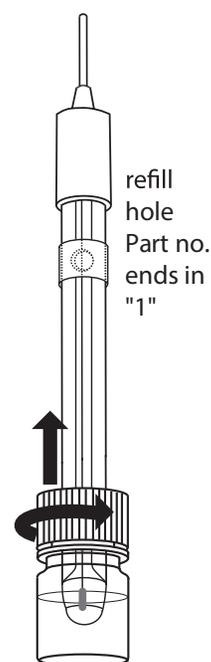

Fig. 2
1. The electrode is shipped in a plastic bottle containing a solution of 4 buffer and potassium chloride. The electrode should remain in the bottle until it is used. Remove electrode as shown in FIG.2 If the electrode is used infrequently the bottle and its solution should be saved and the electrode stored in it (See Electrode Storage Section).